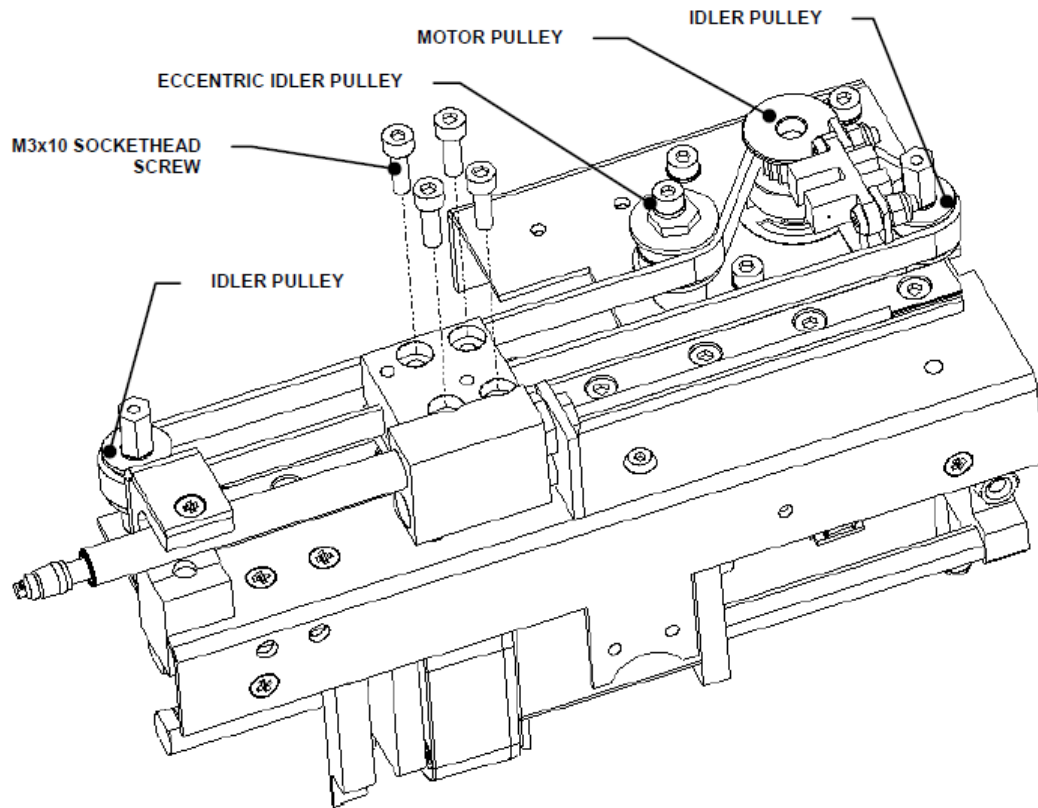

Figure U-30: Belt Assembly
The Timing Belt Assembly is shown in Figure U-30.
2. Loop the Belt around the Motor Pulley, Idler Pulleys and the Eccentric Idler Pulley. Loosen the Eccentric Idler Pulley Assembly if required to fit the Belt (Figure U-30). Secure the Spigot Support onto the Linear Rail Bearing Block using four M3x10 Socket Head Cap Screws and Loctite 222.